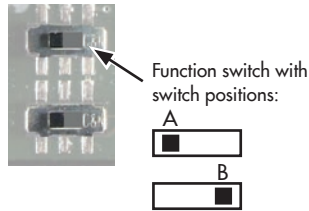

Fig. 7-2: *Function switch*
2. Switch the function switch briefly from its position to the other position and back again (see Fig. 7-2).